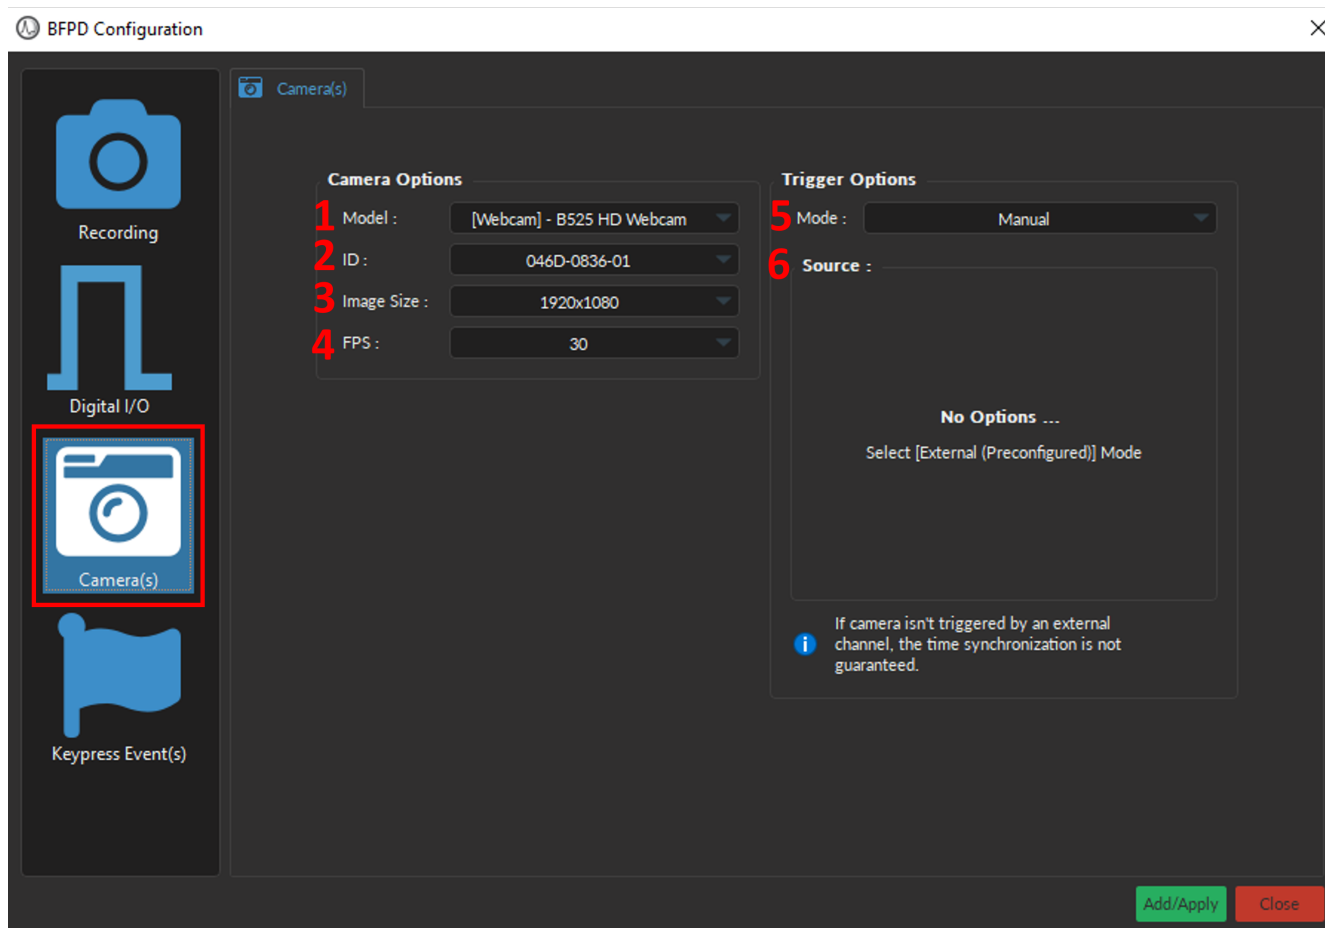

Figure 13.25: Channel(s) configuration window, Camera
1. The **Model** (Fig. 13.25, 1) allows you to select the camera of choice based on the type of camera.
2. **ID** drop-down list (Fig. 13.25, 2) is used to select a camera based on its unique ID. The ID is particularly useful if multiple cameras of the same model are required for the experiment.
3. The **Image Size** (Fig. 13.25, 3) is used to set the resolution of the image. The large the number of pixels used for width x height, the better the resolution. Currently, image size can ranges between 160x120 to 1920x1080 pixels.
4. The **FPS** (Fig. 13.25, 4) is used to specify the frame rate of the camera (i.e. the number of images displayed per second). FPS can be any value between 5 to 30 for web cameras and up to 60 FPS for the *Doric Behavior Camera*.
- The **Mode** (Fig. 13.25, 5) sets the type of trigger that will control the camera. Depending on the type of camera, at most three modes are available:
- The **Source** (Fig. 13.25, 6 & Fig. 13.27) is only used for the **External (Preconfigured)** mode, and displays the **Digital I/O** channel with the preconfigured parameters that will be created at the same time as the **Camera Channel** (Fig. 13.27). For a detailed description of each Digital I/O parameter see Section 13.4.4. Briefly, key parameters include: